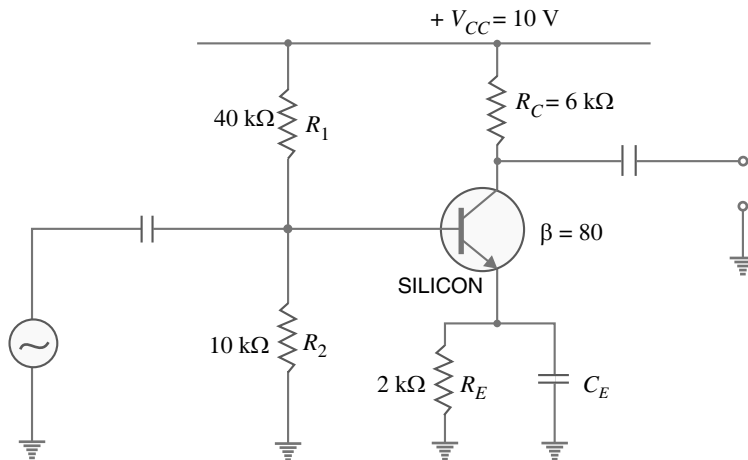

Fig. 8.30
**Example 8.17.** Determine the ac emitter resistance for the transistor circuit shown in Fig. 8.30.